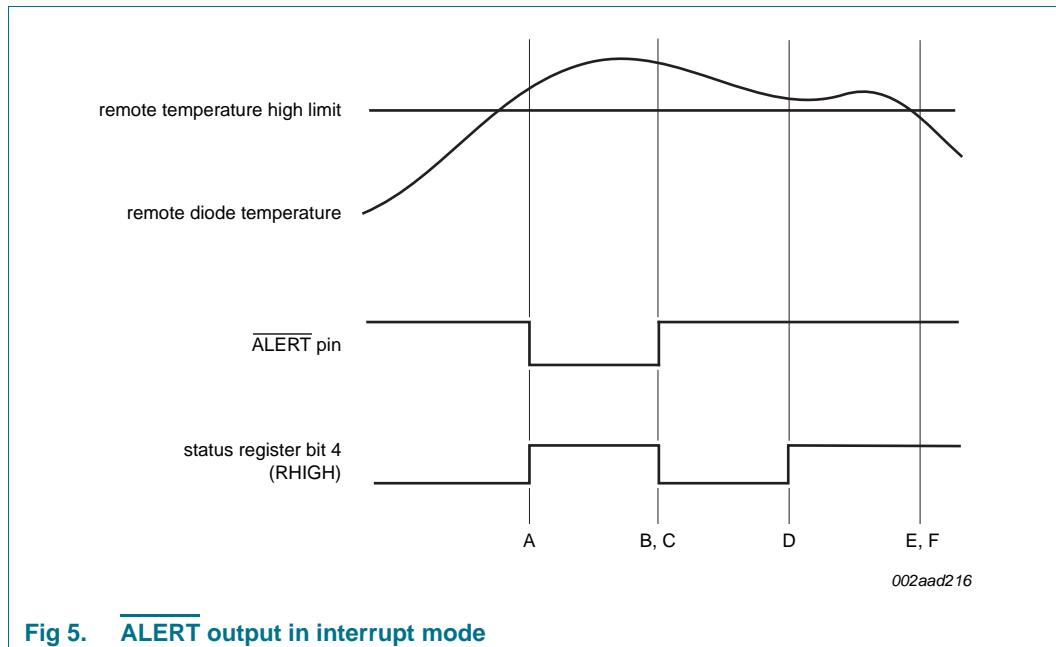

Fig 5. ALERT output in interrupt mode
In the interrupt mode, the ALERT output is used to provide an interrupt signal that remains asserted until the interrupt service routine has elapsed. In the interrupt operating mode, a read of the Status register will set the ALERT mask bit 7 of the Configuration register if any of the temperature alarm bits of the Status register is set, with exception of BUSY (D7) and OPEN (D2). This protocol prevents further ALERT output triggering until the master device has reset the ALERT mask bit at the end of the interrupt service routine. The Status register bits are cleared only upon a read of the Status register by the serial bus master (see Figure 5). In order for the ALERT output to be used as an interrupt, the ALERT Configure bit D0 of the ALERT Mode (AM) register must be set LOW (POR default).